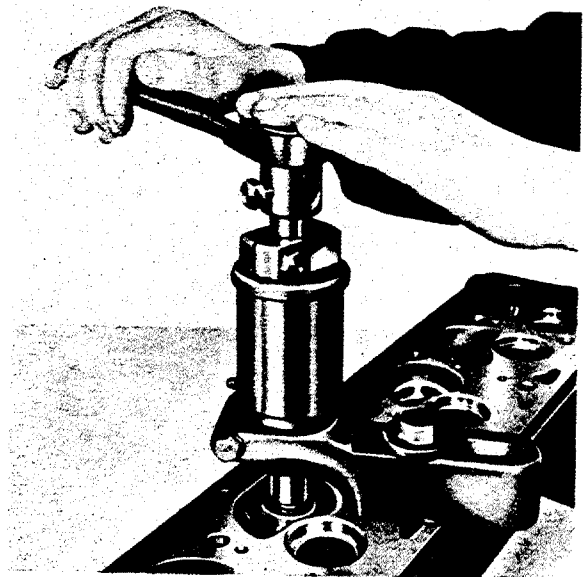

Fig. M 27/11
14. Clean recess for valve seat ring and check with an inside gauge (Fig. M 27/14).